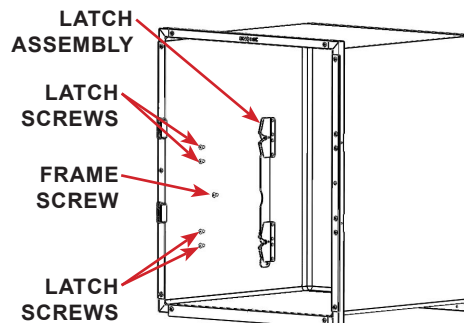

FIGURE 2.23 - Single Door Cage
**STEP 12:** SD Cage - Remove the screws (4 ea) holding the latch assembly, and the center frame screw from the previous set cage. See FIGURE 2.23